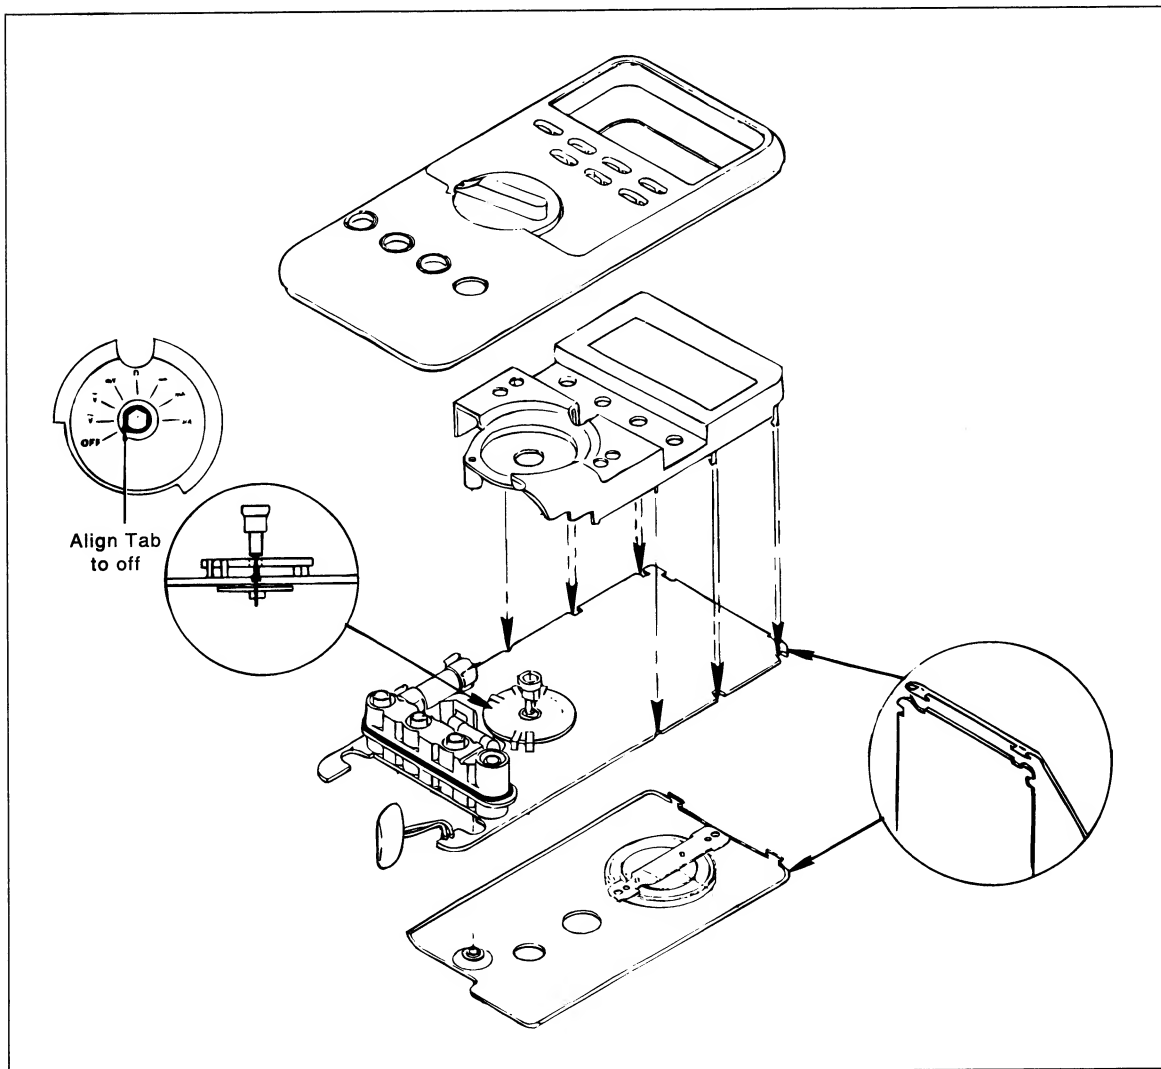

Figure 3-2. Assembly Details
3. Now turn the case over (display side up), and, lifting up on the input terminal end, disengage the upper case half from the gasket. Gently unsnap the upper case half at the display end. See Figure 3-2.